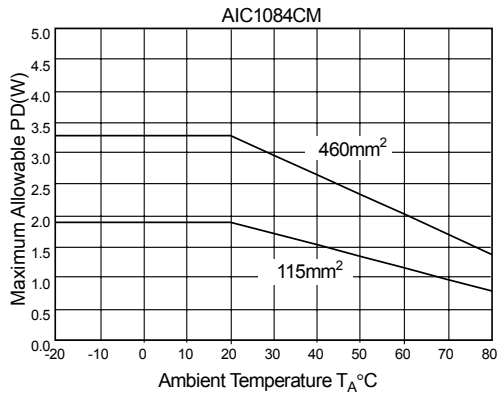

Fig. 4: Max allowable PD vs. ambient temperature for TO-263
(de-rating to 80% from fig. 4)
Step2: Find the value of the thermal resistance you need ($R_{\theta_{JA}}$) in table1 for $115mm^2$ and the value of the maximum power limit (P_D max) on the Y axis in figure 4.
The Y value, the maximum allowable PD, can be found by reading the intersection of $T_A=25^{\circ}C$ with the curve for $115mm^2$ in figure 4.